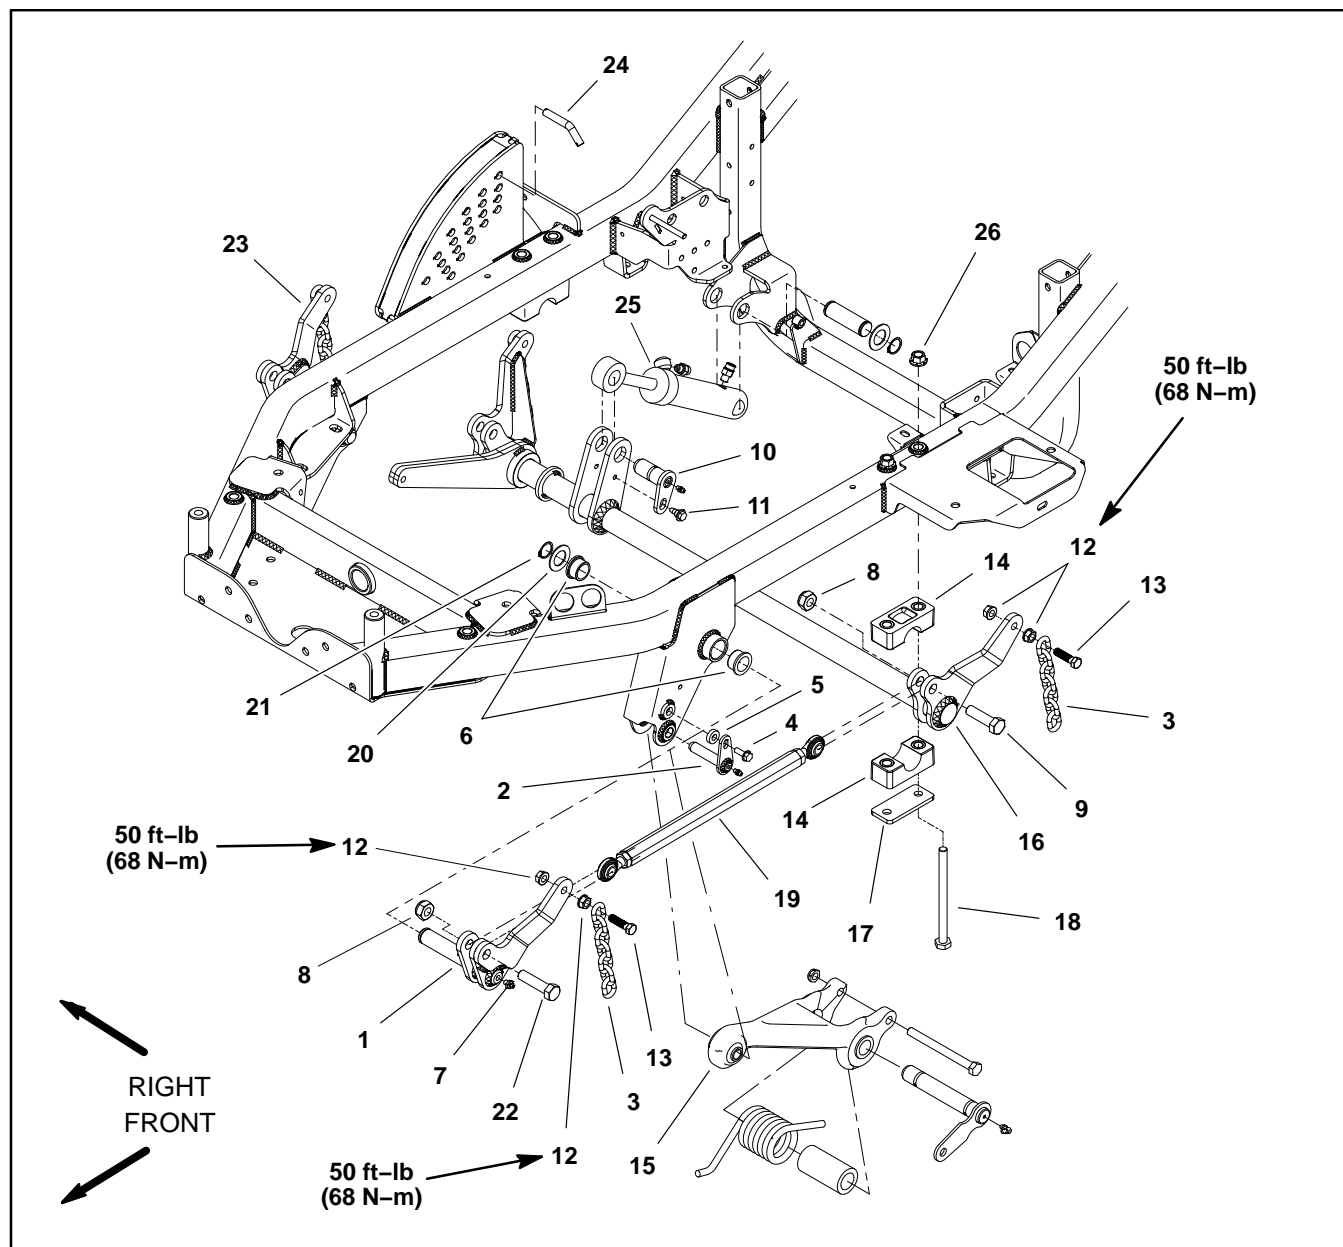

Figure 48
Disassembly (Fig. 48)
2. Remove lift arm components as necessary using Figures 48 and 50 as guides.
Assembly (Fig. 48)
1. Check bearing caps (item 14) and flange bushings (item 6) for wear or damage. Replace components if necessary.
2. Install lift arm components as necessary using Figures 48 and 50 as guides.